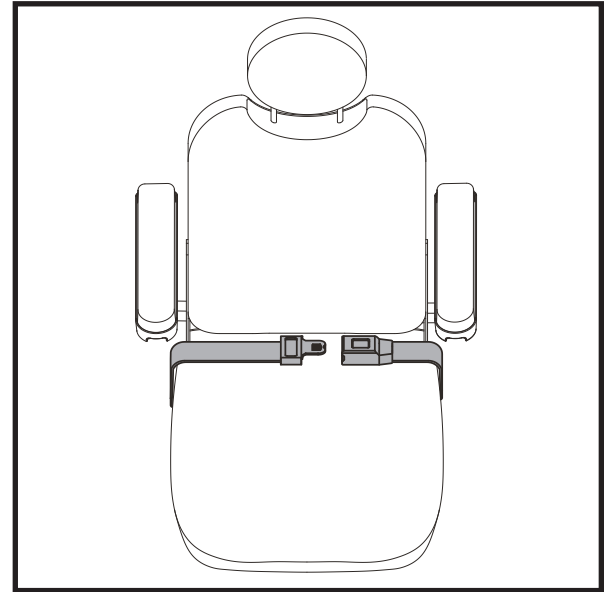

Figure 13. Positioning Belt Adjustment
1. Once seated, insert the metal tab on one side of the belt into the plastic housing on the opposite side until you hear a click. See figure 13.